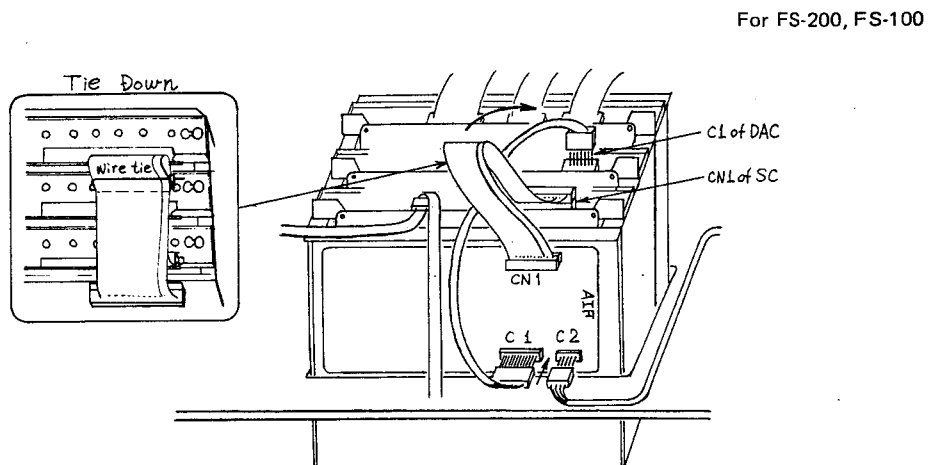

Fig. 7
15. For models FS-200, FS-100 tie down 40 pin flat cable. Loosen retaining screws (2) that secure the center circuit board bracket in the digital circuit board cage. Lift the assembly (vertically) just enough to permit the passing of the wire tie (supplied in the installation kit) thru the appropriate holes in the top of the bracket. Lock the tie temporarily to prevent the tie from falling back through the holes. Reinstall the circuit board and tighten the bracket retaining screws. Now, pass one the 40 pin flat cable through the loop of the wire tie. Make sure that no stress is supplied to the plug and that the roll top will clear (see figure 7).